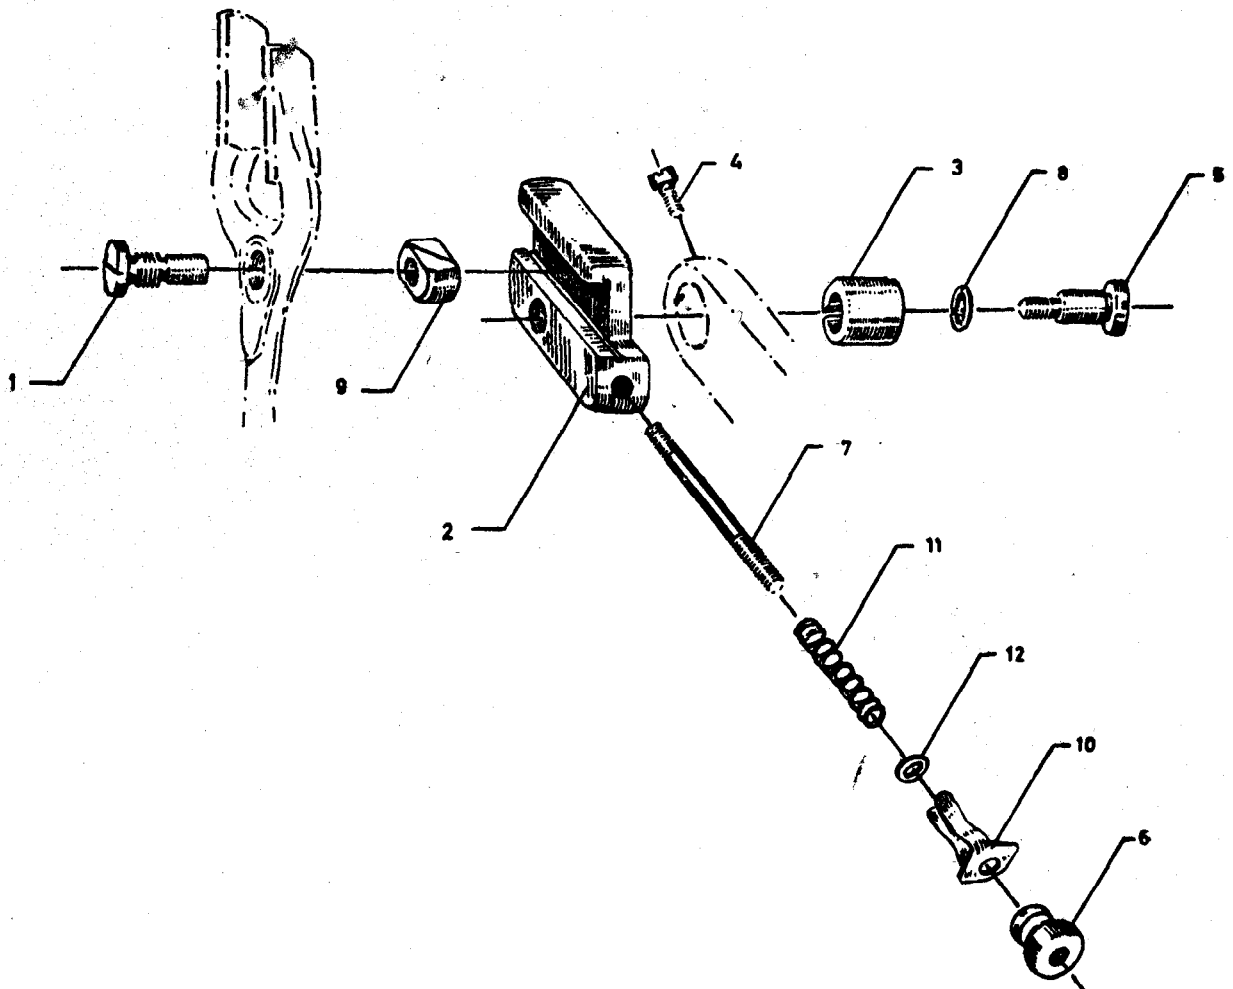

FIG. 14 STITCH REGULATOR ASSEMBLY
**2.14 Stitch Regulator Assembly — See Fig. 14.**